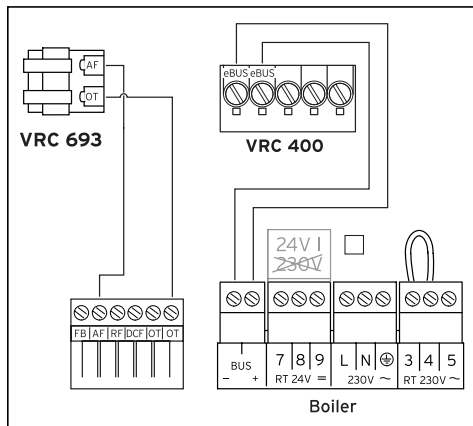

Fig. 10.1 Electrical connection
The connection to the boiler is a 2-core bus cable (eBus), see fig. 10.1.
- Wire up the terminals as shown in the diagram in fig. 10.1.
- Make sure the housing seal is correctly fixed in the top section of the housing (1) and push the top section onto the housing.
- Fix the top of the housing (1) to the bottom (2) using the screws supplied.
This means that the wires can be swapped without impairing communication (fig. 10.1).